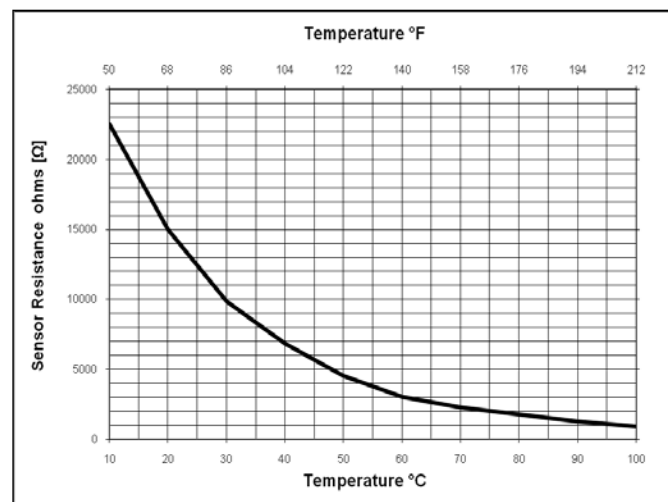

Fig. 28 Sensor resistance graph
- Check temperature sensors for resistance values against fig. 28 (temp vs. resistance on sensors).